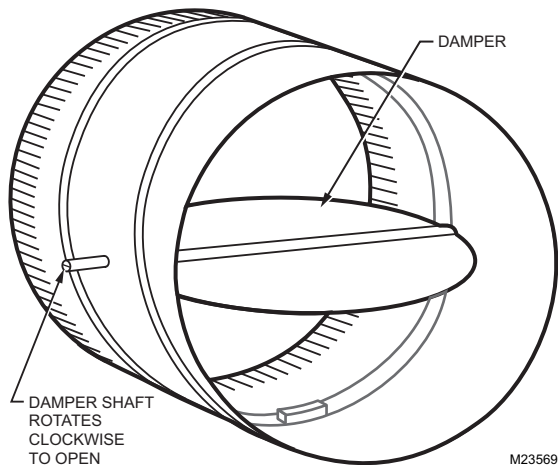
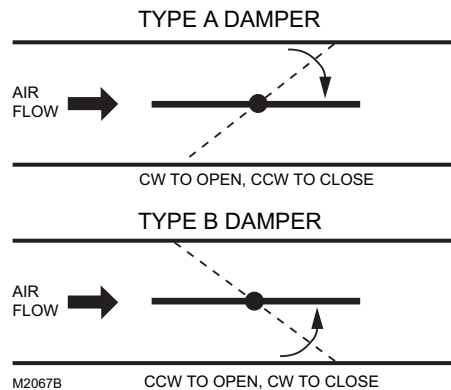

Fig. 2. Damper with 90 degree CW rotation to open.
Fig. 3. Determining the rotation direction (CW or CCW) for damper opening.
Determine the damper rotation and opening angle prior to installation. See Fig. 2 below and Fig. 3 on page 4 for examples.
3. Determine the direction the damper shaft rotates to open the damper (CW or CCW) (see Fig. 3). Typically, there is an etched line on the end of the damper shaft that indicates the position of the damper. In Fig. 2, the indicator shows the damper open in a CW direction.
4. Determine the damper full opening angle (45, 60, or 90 degrees). In Fig. 2, the damper is open to its full open position of 90 degrees.